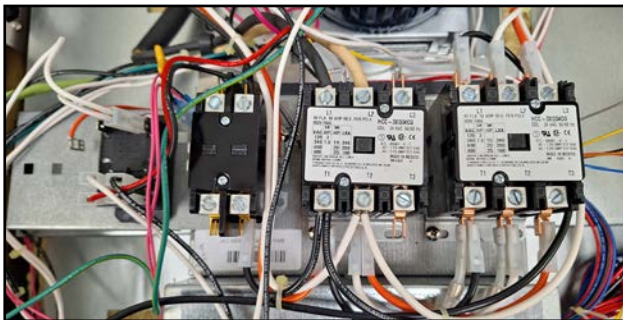

Fig.69
****The existing relays will not operate with the new control board.**** (Fig.69)